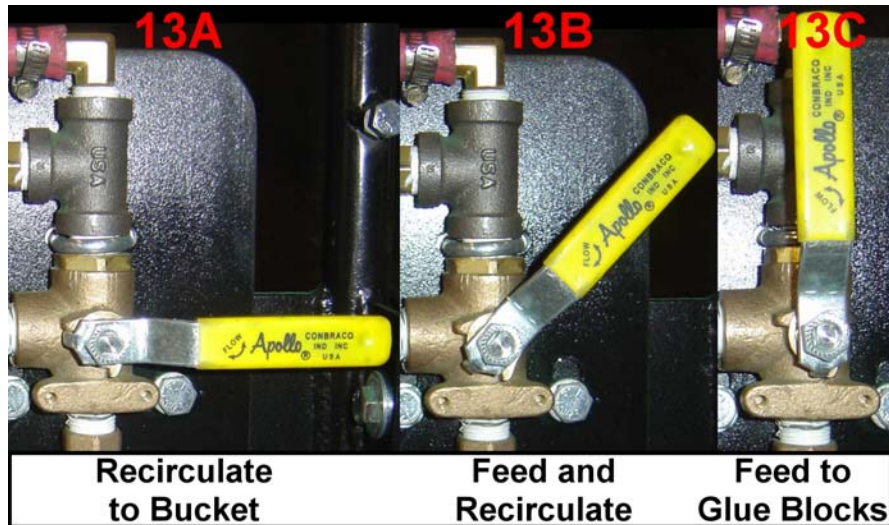

Figure 1 Glue System Operation
1. The glue system operates using a positive displacement pump. The pump is fed by an intake pipe that is dropped into a lubricant-adhesive bucket. The glue pump feeds the operator control panel. Lubricant-adhesive flow is directed and metered by the 3-way valve (Figure 1). **DO NOT** meter flow using the on/off valve on the wand.
2. As shown in Figure 1, the glue can be: